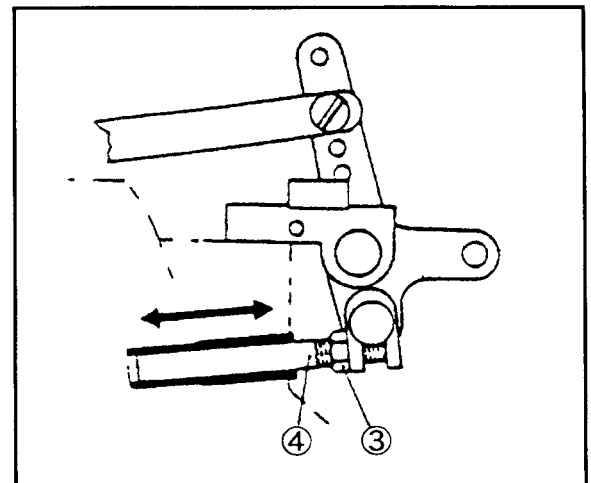

Fig. 11
- (1) Loosen the lock nut ③.
- (2) Move the presser foot lifter stop plunger ④ in or out to adjust the clearance. (Fig. 11)
- (1) 放鬆螺母③。
- (2) 移動抬壓腳停止插銷④或再調整外面間隙。(Fig. 11)